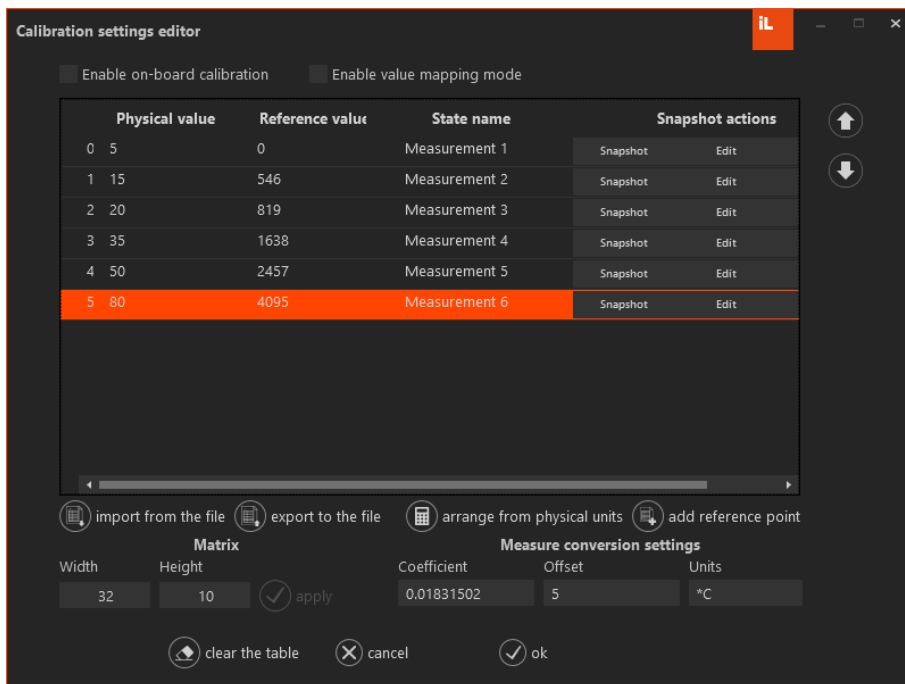

Figure 30: Calibration example step 3.
3. Click the *arrange from physical units* button to automatically compute the reference values for on-board calibration as well as the parameter for value mapping (*Coefficient* and *Offset*). Assign the correct unit (in this case °C) to the Units field (**Figure 30**).